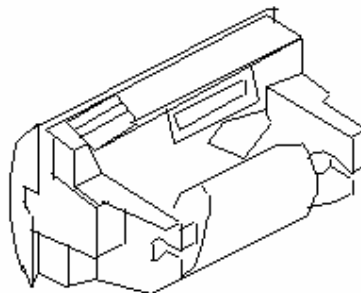

Fig.2-7
- (4) Put the new paper on the paper roller, and fix the paper roller firmly according to Fig.2-7;